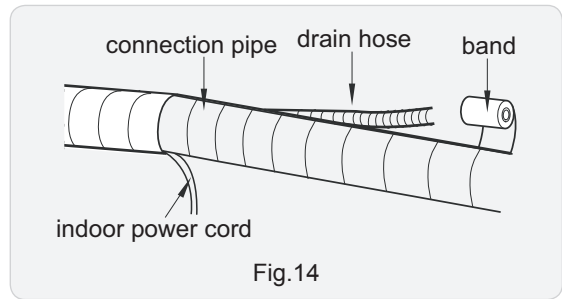

Fig.14
- (2) Reserve a certain length of drain hose and power cord for installation when binding them. When binding to a certain degree, separate the indoor power and then separate the drain hose. (As show in Fig.14)
- (3) Bind them evenly.
- (4) The liquid pipe and gas pipe should be bound separately at the end.